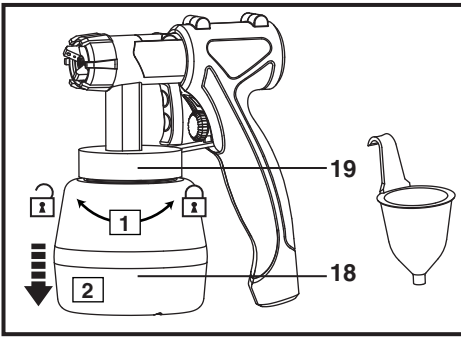

Fig. 1
3. Remove the cup (18) from the lid (19) and fill it with the paint according to the scale on the cup (Fig. 1). Only fill as much paint or thinning agent as required.
4. Replace the cup (18) onto the spray gun by attaching with the lid (19). Make sure the cup and the lid have been attached tightly.